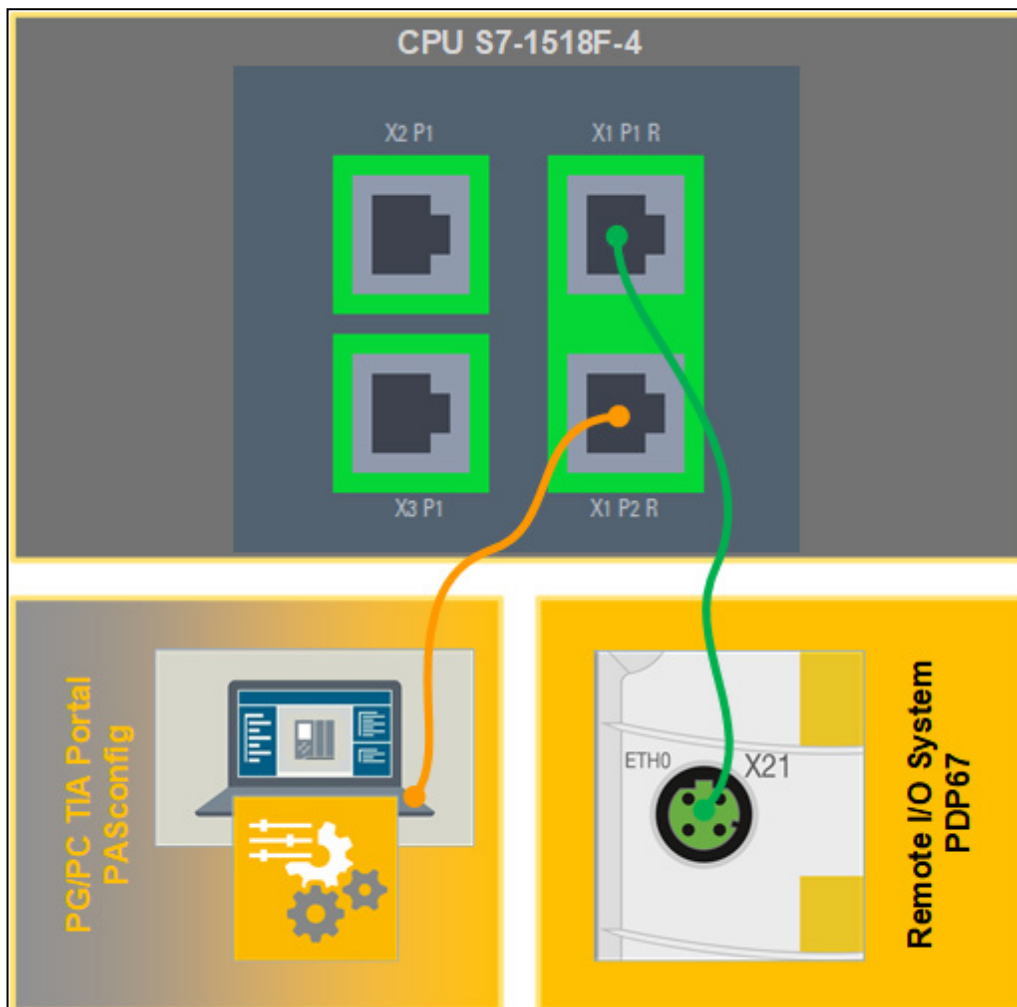

Figure 11: Application – Wiring of Ethernet connections (schematic)
Figure 11 schematically illustrates the wiring of the Ethernet connections:
- ▶ Connect the S7-CPU and the I/O device in accordance with Figure 11: Application – Wiring of Ethernet connections (schematic) [18]: